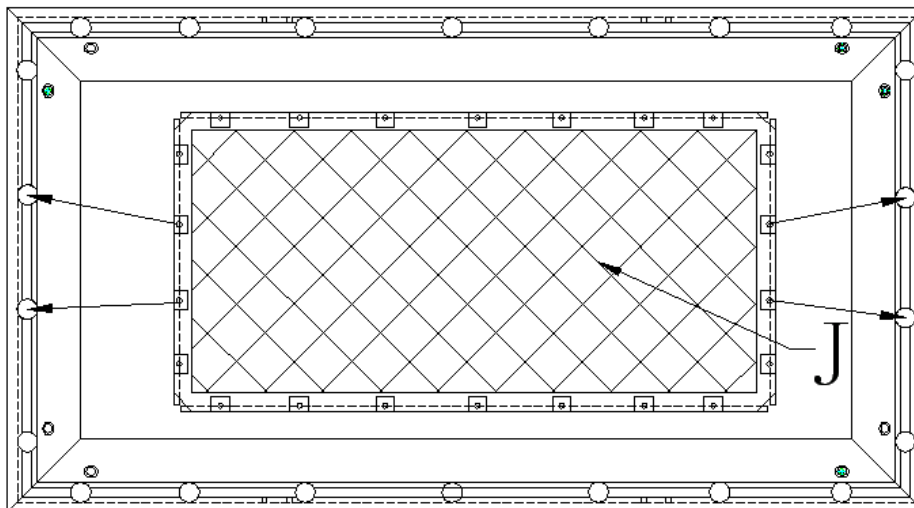

Fig. 6
1. Begin by installing the screen material on the center two holes on the (D) nails located on the left and right sides of the frame as shown on Fig. 6.